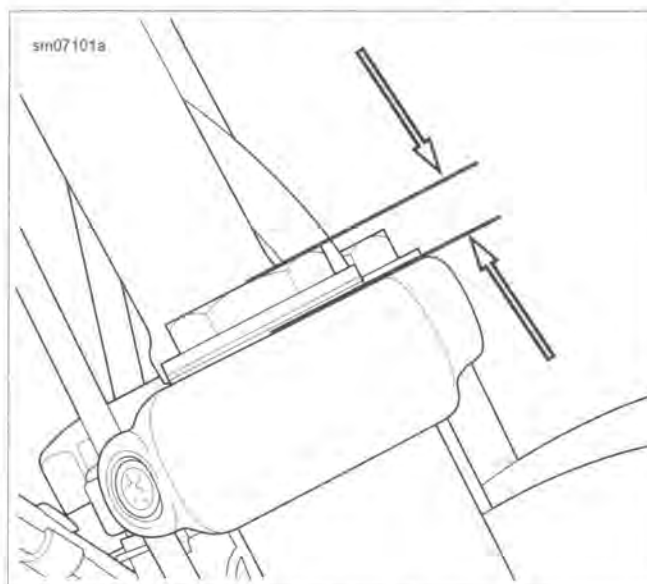

Figure 2-106. Fork Tube Protrusion
- See Figure 2-106. Make sure that top of fork tube cap extends above upper fork clamp according to specification listed in Table 2-15.